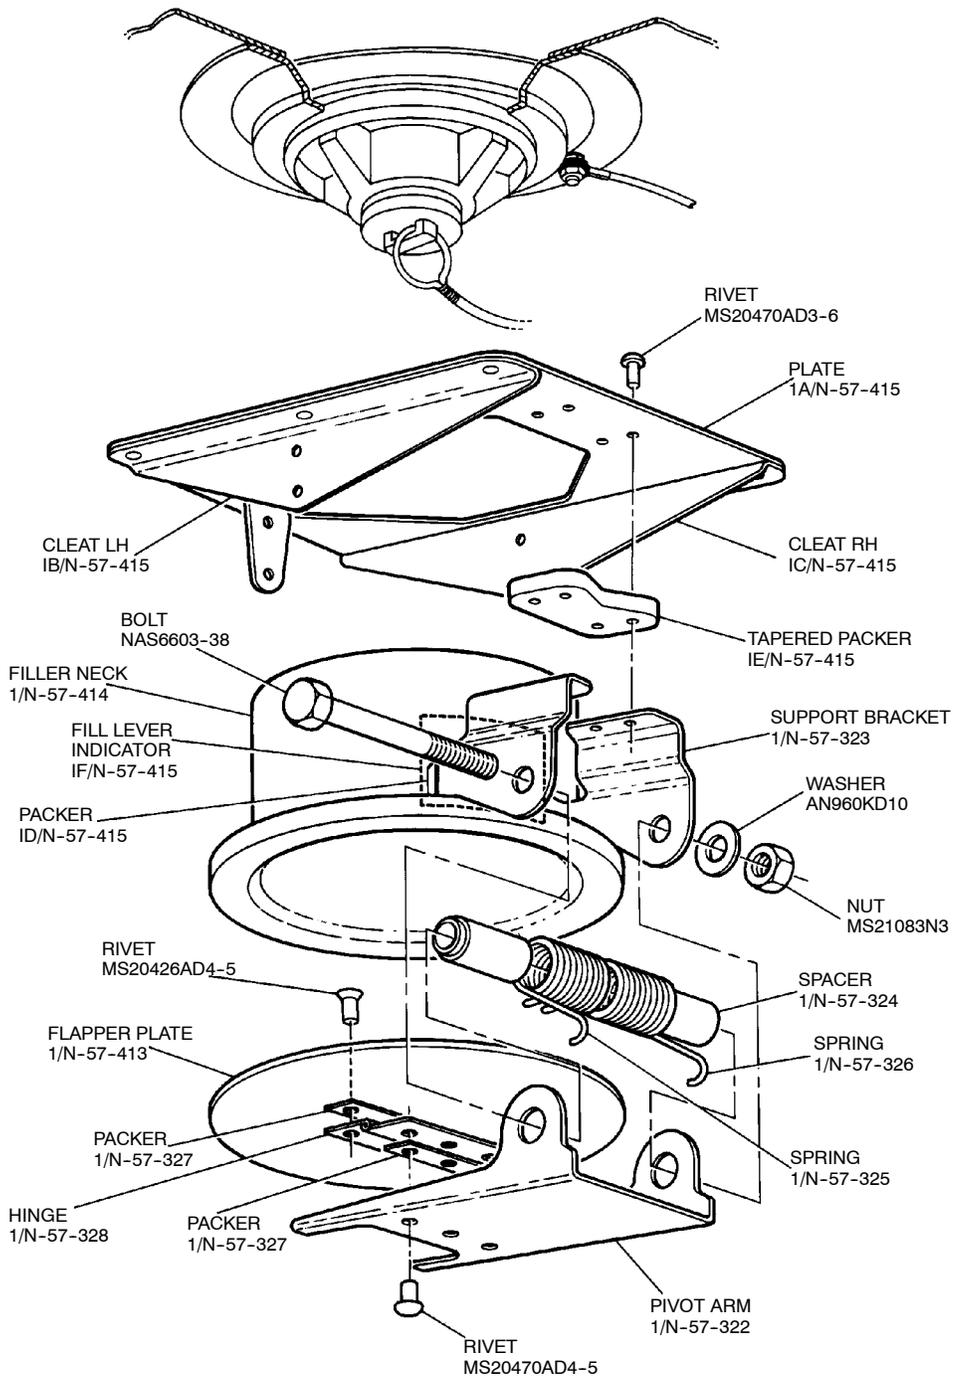
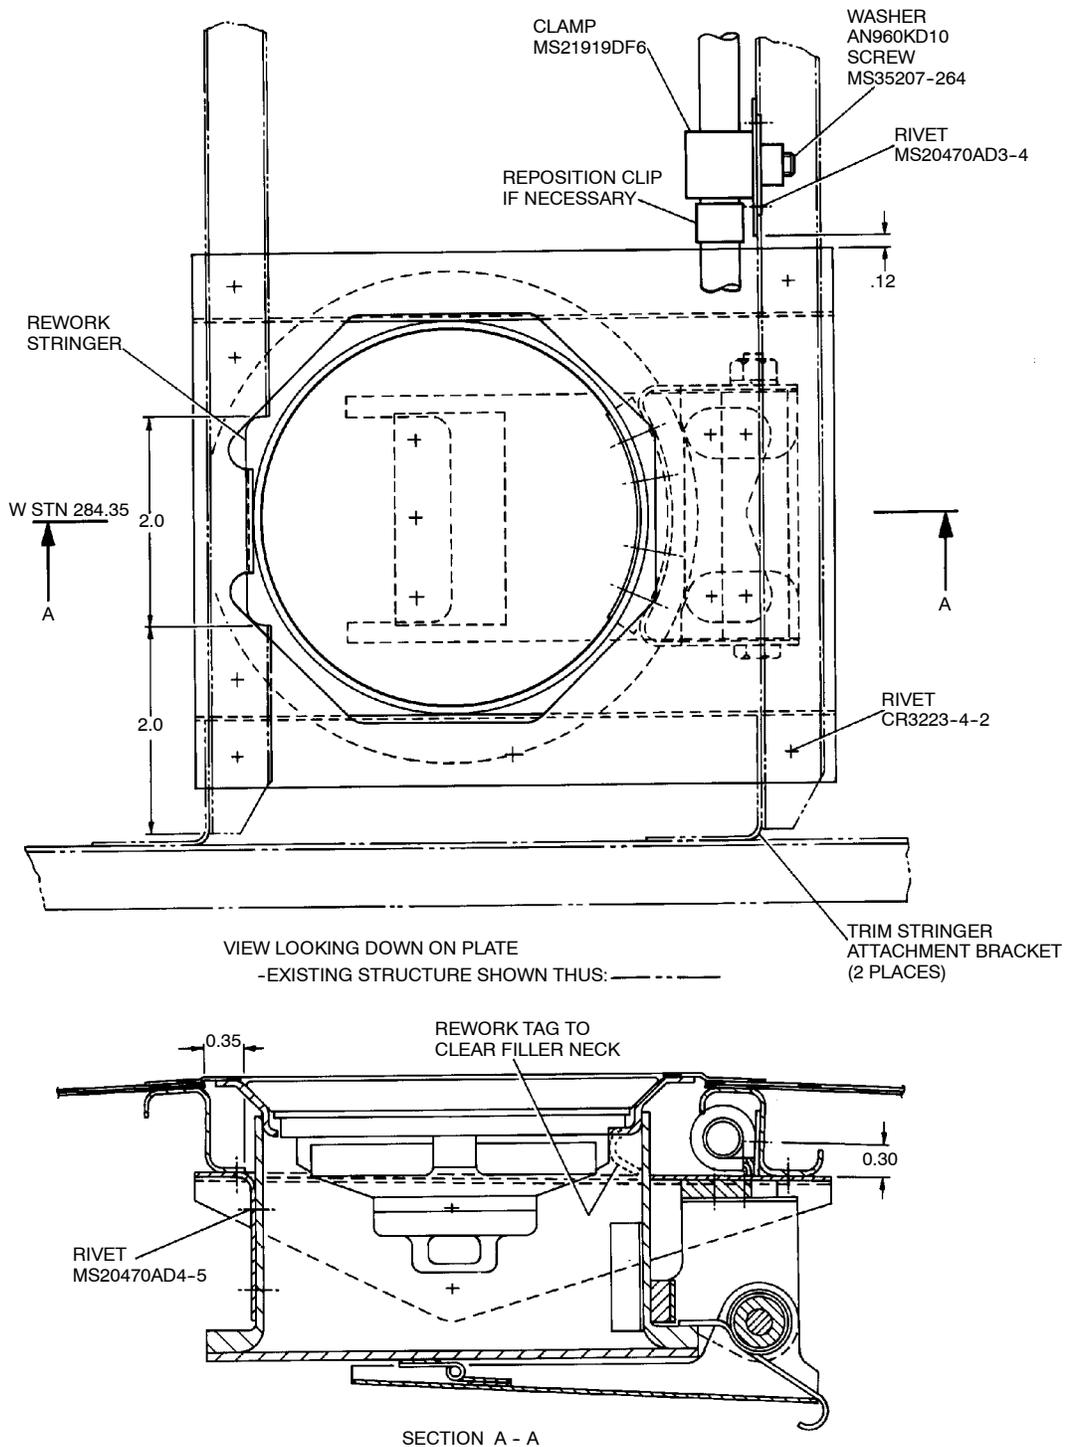
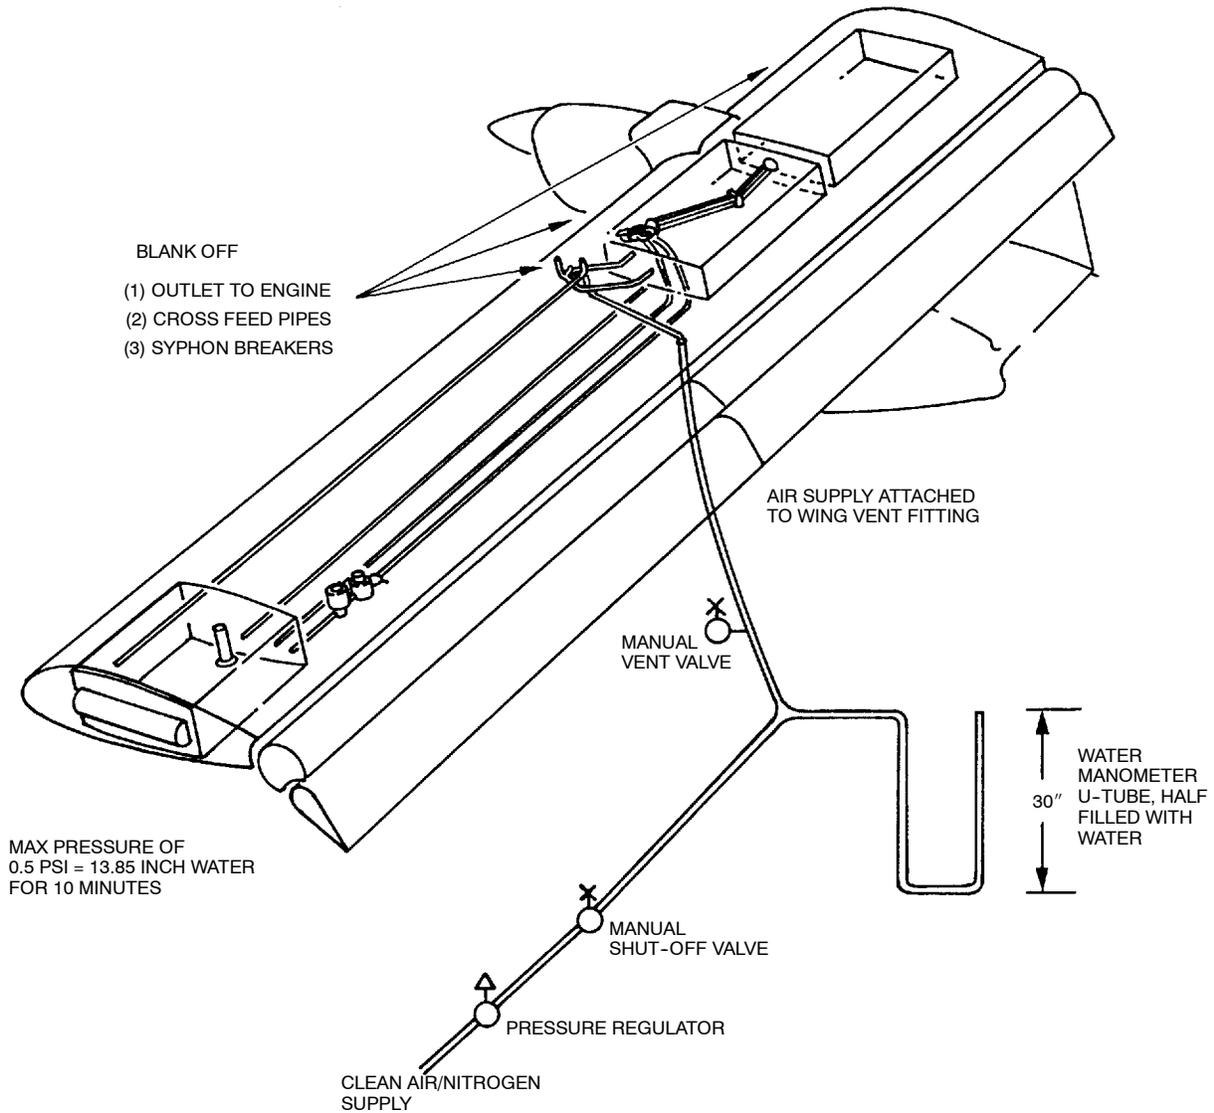

Figure 1 Non-Return Valve Assembly
Figure 2 Non-Return Valve, Installation Details
Figure 3 Auxiliary Tank, Pressure Test Rig
- (1) Loosen the 68 attachment bolts until the bolts have approximately three mm of slack.
- (2) Rig a pressure supply system to the wing vent as shown in Figure 3 and, using a nitrogen supply, apply a maximum pressure of 0.5 p.s.i. until the tank end seal separates from the tank.
- (3) Remove the 68 bolts and lift the tank end clear.
- (4) Remove the tank end gasket or, Post Mod N684, the Permatex "Form a Gasket".
- C. Rework stringer one inch either side of w.stn 284.35 to clear the filler neck as shown in Figure 2.
- E. Trim the stringer attachment bracket in two places sufficient to clear the valve assembly, refer to Figure 2.
- H. Assemble the cleats, plate and filler neck, drill and temporarily pin together. Position the assembly in the tank. Ensure that the filler neck is fitting correctly in the filler adaptor and, using the plate as a template, mark and drill the seven rivet holes in the stringers using a 3.3 mm drill, and pin plate in position. It may be necessary to rework the tag shown in Figure 2 to clear the filler neck; ensure that the retaining lanyard can be installed with the filler neck in position.
- I. Reposition the plate assembly I/N-20-803 as shown in Figure 2, mark and drill two holes 2.45 mm to suit the plate assembly.
- (1) Degrease with MEK.
- (2) Clean with water and allow to dry.
- (3) Touch up with Alodine 1200 and allow to dry.
- (4) Apply a coating of epoxy primer.
- L. Complete assembly of non return valve as shown in Figure 1.
- (1) Rig a pressure supply system to the wing vent as shown in Figure 3.
- (2) Blank off the syphon breakers, outlets to the engine and crossfeed pipes.
- (3) Using clean air or nitrogen, apply a maximum pressure of 0.5 p.s.i. or 13.85 inches water. Check that this pressure is maintained for 10 minutes. If the pressure is not maintained, check for leaks using liquid bubble leak detector. Rectify leaks and repeat pressure test until a satisfactory result is obtained.